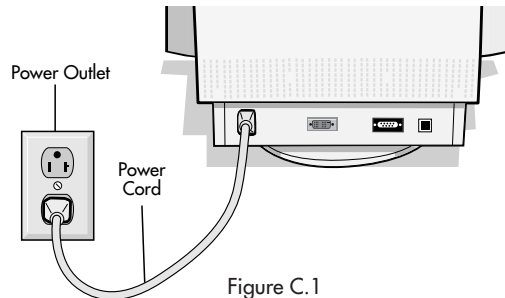

Figure C.1
**NOTE:** To obtain the MultiSync Macintosh cable adapter or DVI to DFP adapter call NEC Technologies at (800) 820-1230
3. Connect one end of the power cord to the MultiSync FP1350X monitor and the other end to the power outlet (**Figure C.1**).